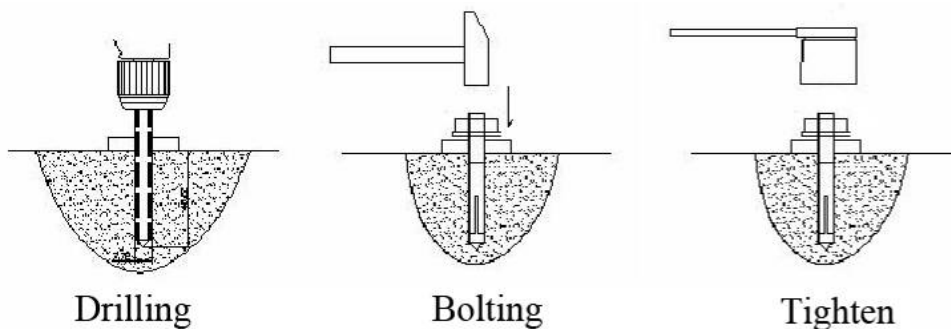

Fig. 17
2. Use a rotary hammer drill, and drill all the anchor holes and install the anchor bolts. Then tighten the Anchor Bolts (See Fig. 17).